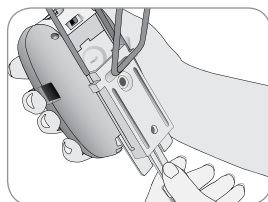

Fig. 14
5. To remove alarm, gently push release lever IN while sliding alarm up and out (fig. 14).